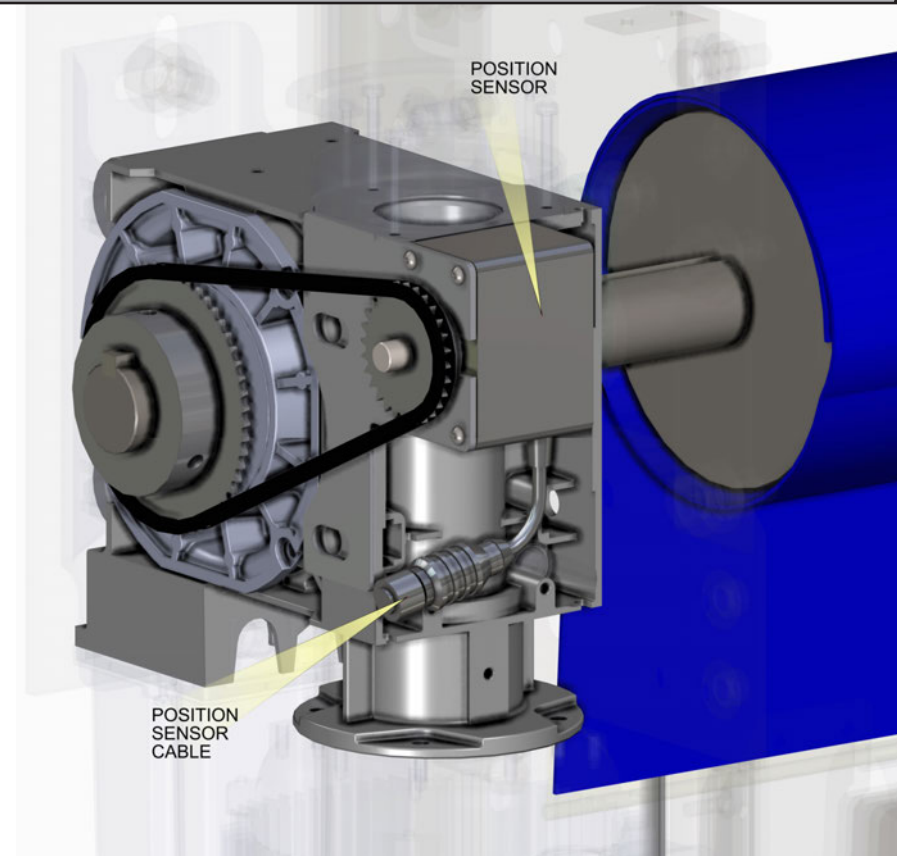

Fig 21
-5 pin cable connector (See Fig 21 and 22 on page 24)